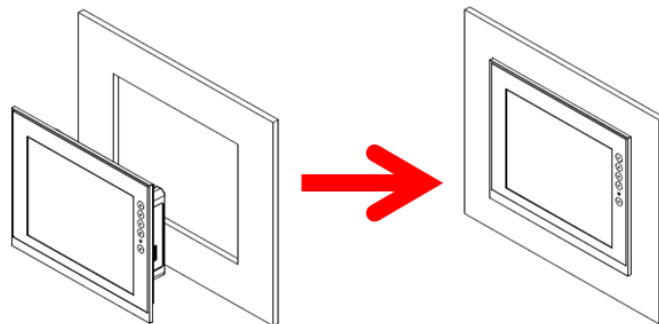

Figure 2-4: Fitting the panel PC into a frame.
- Step 2** Put the panel PC into the cutout on the front side of the frame, with the panel PC's front bezel facing the outside, as shown in Figure 2-4.